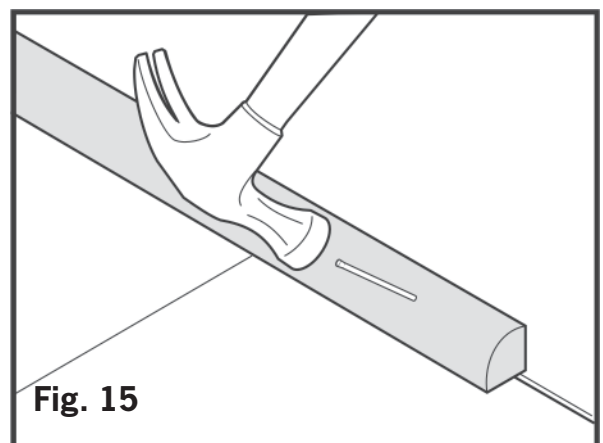

Fig. 15
- Remove expansion shims and use required Kährs moldings and/or trim pieces to cover expansion space (Fig. 15). **Always** nail moldings to wall, **never** to flooring!